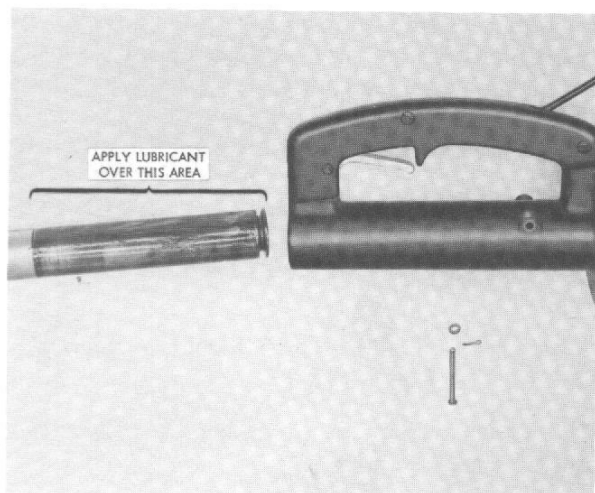

Figure 15. Lubing Extension Tube
1. Remove the ROTO-BIT from the shaft and the retaining pin, washer, and cotter pin from the Handle. See Figure 15.